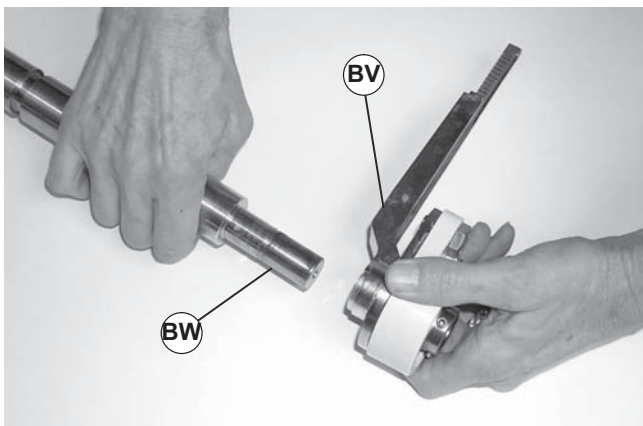

Figure 44
8. Remove bearing and head plate assembly (Figure 44, item BV) from idler spindle (BW).
1. Make sure bearing surfaces on idler spindle are free of nicks and burrs. Slide bearing and head plate assembly (Figure 44, item BV) on idler spindle (BW).